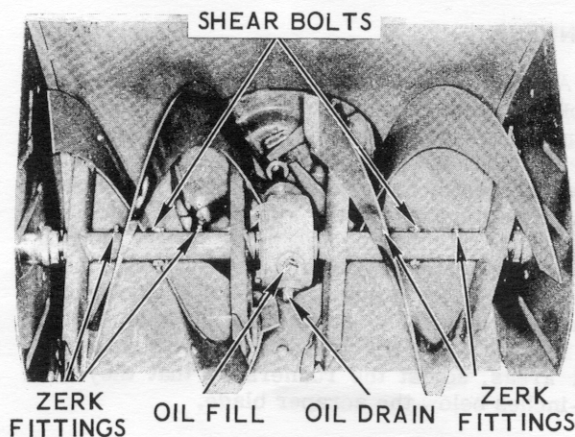

Figure 7
a. Grease the rake shaft periodically and each time a shear bolt is replaced. See Figure 7.